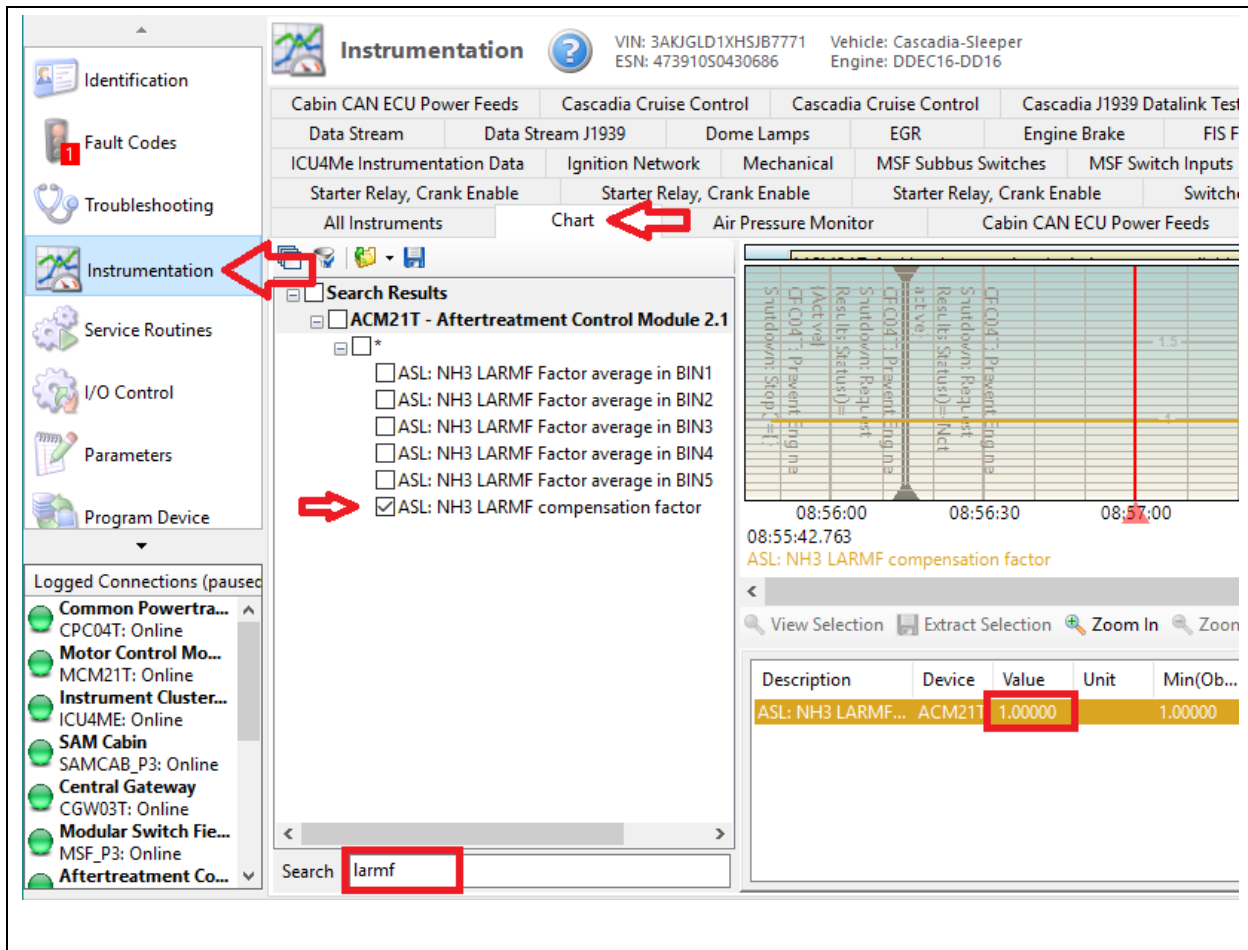

Fig. 4, ASL: NH3 LARMF compensation factor
- 17. Perform an SCR Efficiency Test and monitor **ASL: NH3 LARMF compensation factor**. See figure 4. Does **ASL: NH3 LARMF compensation factor** reach 0.95, or higher, by the end of the test?